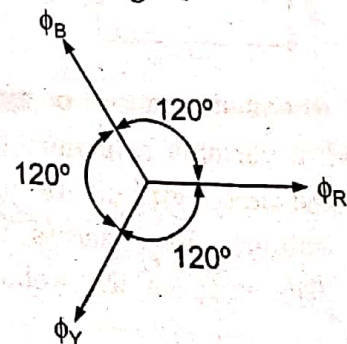

Fig. Q.54.1
- Let the assumed positive directions of these fluxes are as shown in the Fig. Q.54.1.